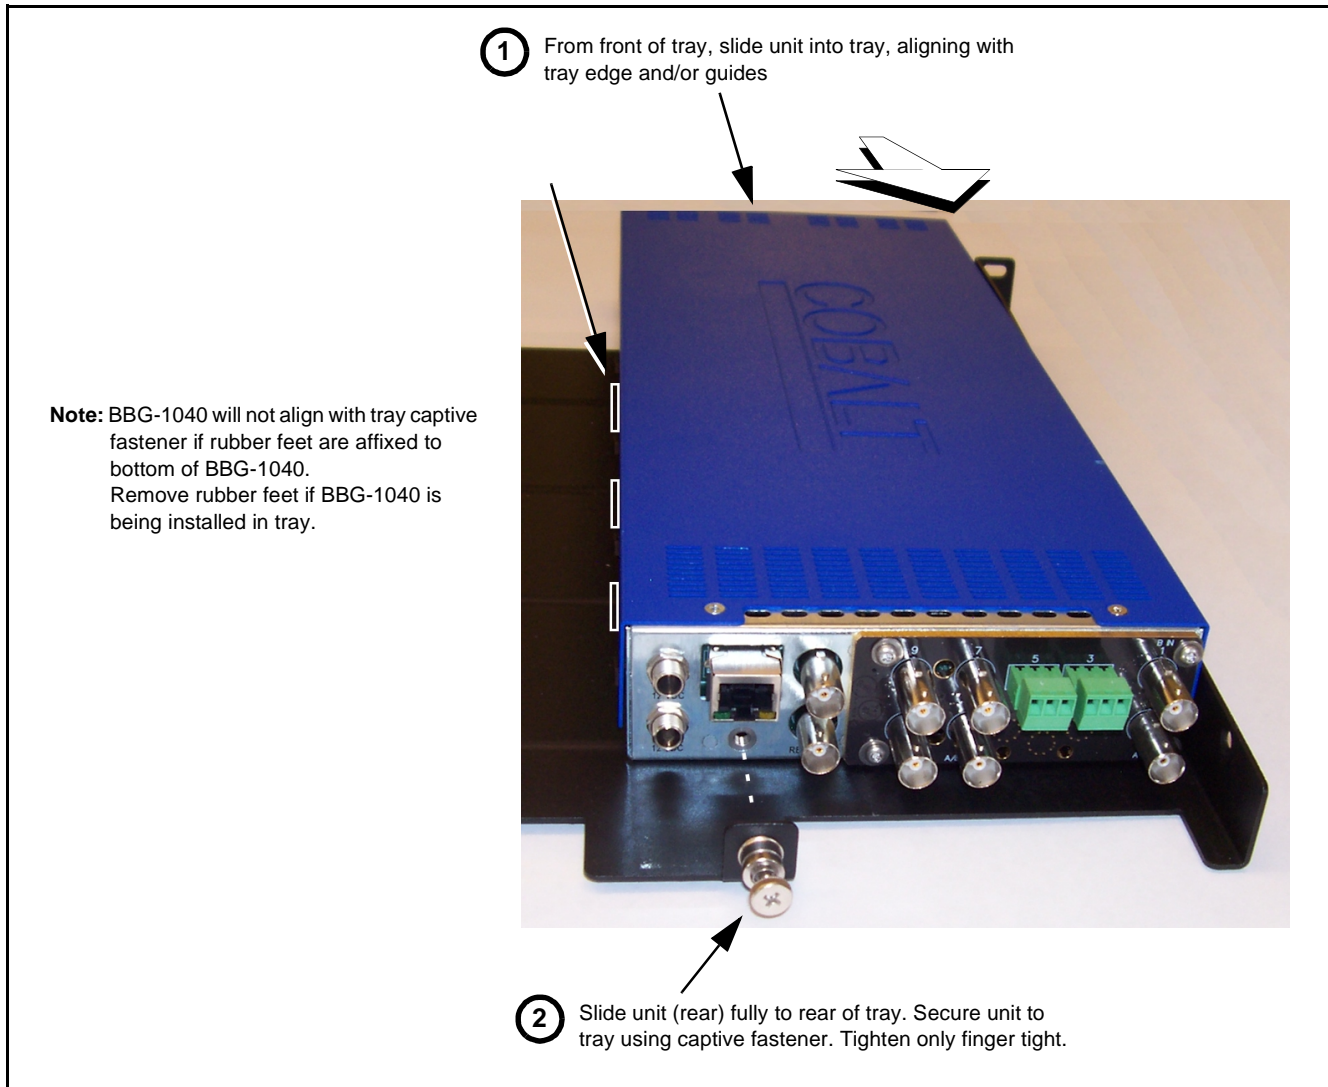

Figure 2-1 Mounting BBG-1040-4x1-CS Using Frame Mounting Tray
1. If installing BBG-1040-4x1-CS using optional frame Mounting Tray BBG-1000-TRAY, install BBG-1040-4x1-CS in tray as shown in Figure 2-1.